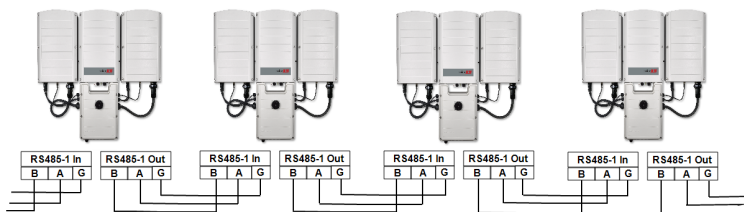

Figure 45: Connecting the inverters on a bus
6. Insert the wire ends into the **G**, **A** and **B** pins shown above. Use one terminal block for the previous inverter in the bus and the other terminal block for the next inverter in the bus, as shown in *Figure 45*. You can use any color wire for each of the **A**, **B** and **G** connections, as long as: